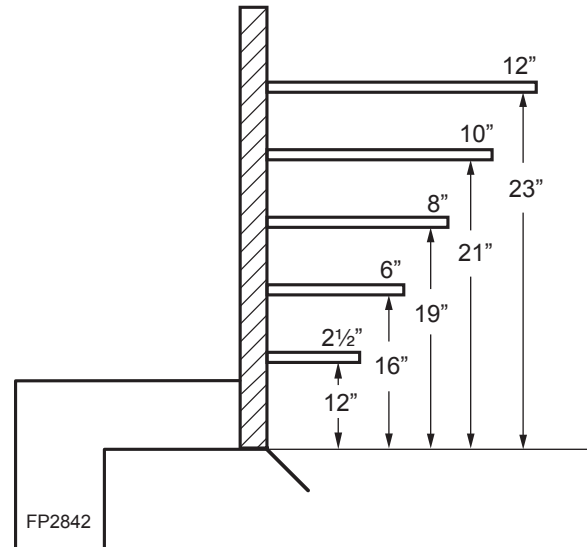
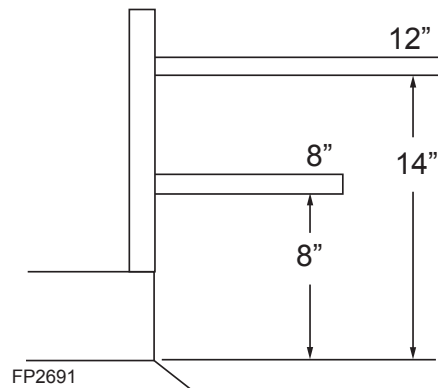

Figure 7a - Mantel Clearances
Figure 7b - Mantel Clearances for Wide Profile Canopy Only
5. **Mantel clearances:** The canopy supplied with the unit must be installed. If a combustibile mantel is installed, it must meet the clearance requirements as shown in *Figure 7a*. However, if lower mantel height is desired, refer to *Figure 7b*.